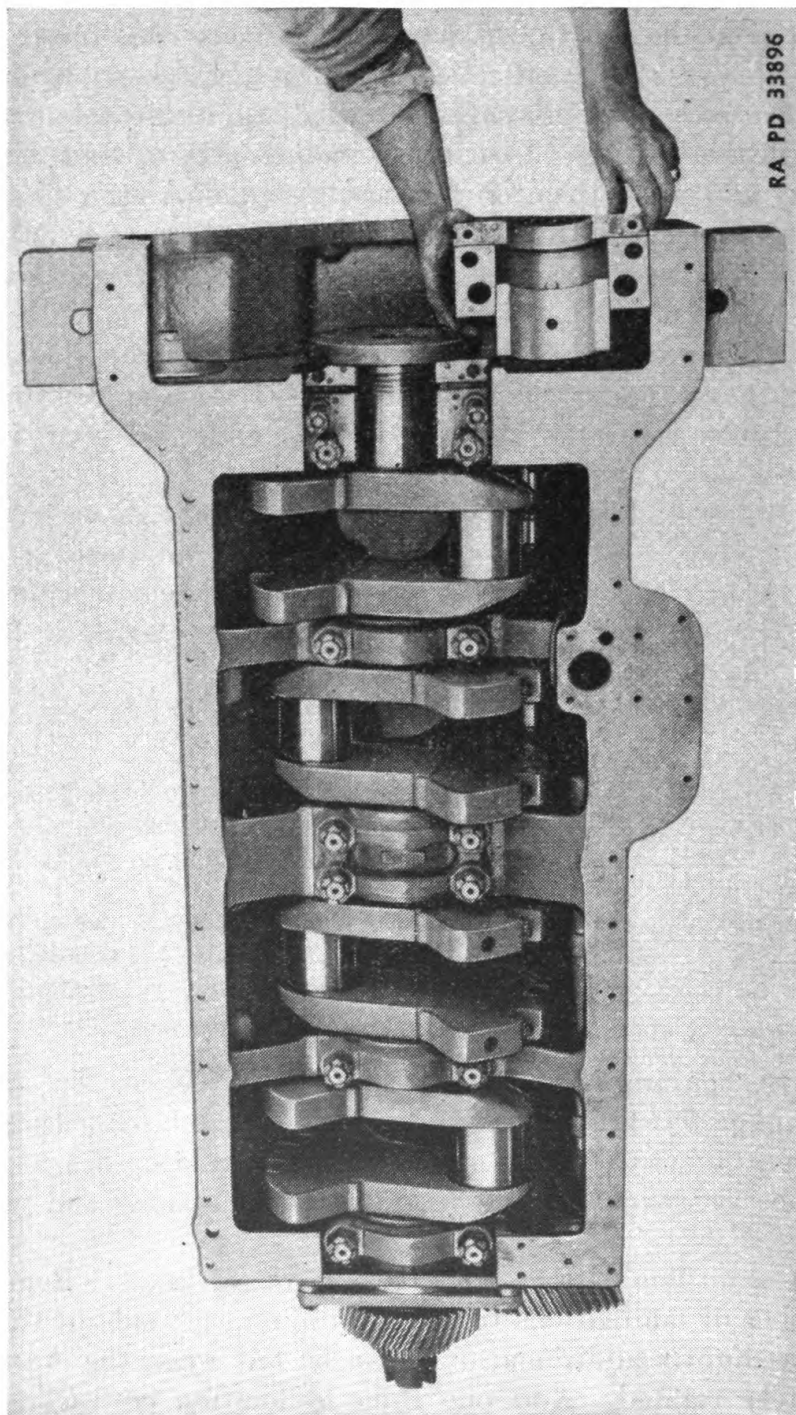

FIGURE 34.—Replacing bearing shell.
(3) (a) Remove crankshaft, old bearings, and oil filter base, and flush all oil passages in the engine thoroughly. It is important that the bearing shells (fig. 34), the bearing bores in the block, and the caps be cleaned of all foreign material or burs. Do not apply oil to the crankshaft or bearings until after the shells have been pressed into place.